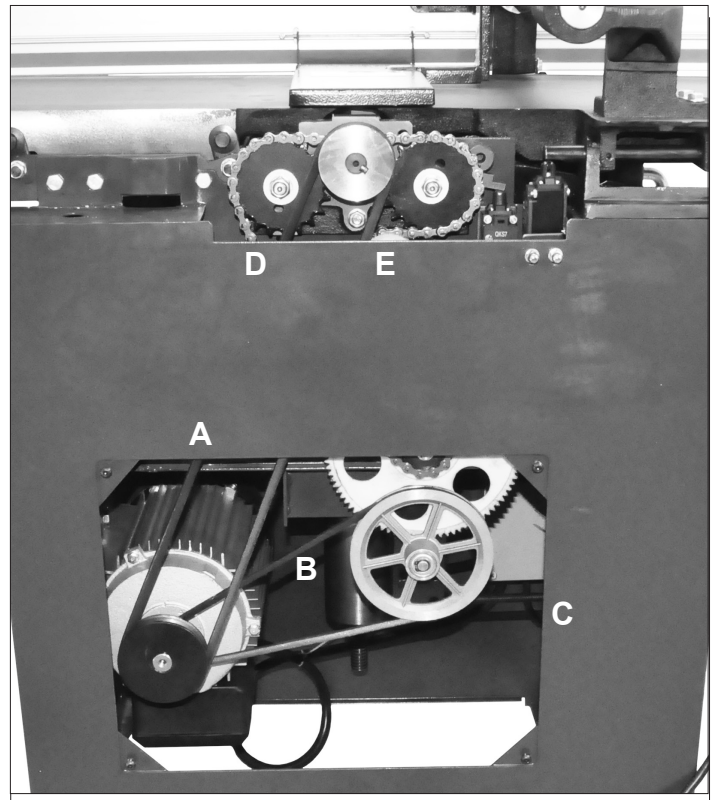
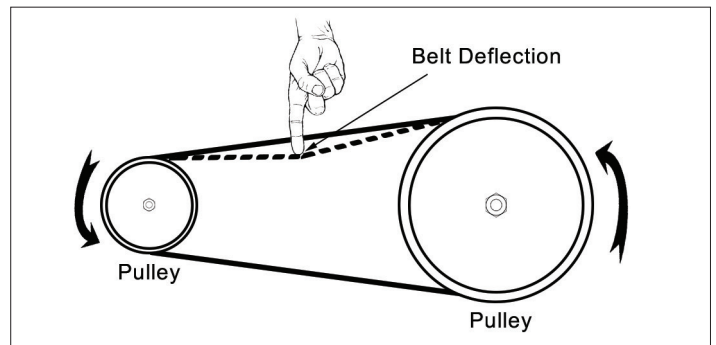

FIG. 30
FIG. 31
3. Check the *Cutterhead Drive Belt* (#222, FIG. 30, A) tension with thumb pressure. The drive belt should not give more than 3/8" in the center. FIG. 31.
6. The *Feed Roller Belt* (#220), FIG. 30, B) is automatically tensioned with the Spring (#248, C) and requires no adjustments.
7. The *Feed Roller Chain* (#228, FIG. 30, D) is factory set and should not require any setting changes. However, to increase or decrease the chain overlap, the Bearing with Sleeve (#230, E) can be adjusted in or out with Bolt & Nut (#233, 229).